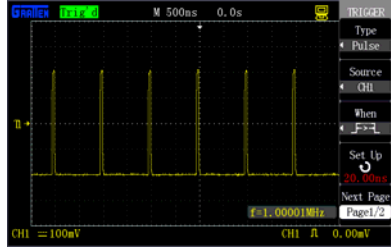

Figure 2-30 Pulse trigger
2. **Pulse trigger:** Set certain conditions to catch abnormal pulses, as shown in figure 2-30.